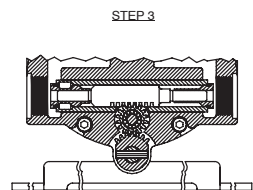

FIGURE 7
- Remove roll pin (Y178-56) from gear (34022) and control rod (34021). NOTE: If head assembly is not to be disassembled, control rod may be removed with head, thereby making it unnecessary to re-time gear (34022) with throttle valves (see "Timing of Head" figure 7). To remove control rod with head, remove roll pin (Y178-55) from control arm (37719), remove roll pin (Y178-60) from brake block (34029) and remove brake block.
- With gear (34022) and control rod assembled to housing, assemble valve parts as shown in figure 7, page 8.